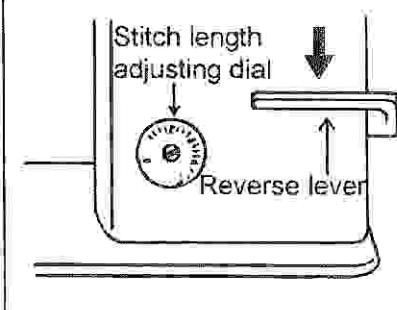

Fig.4
5.Adjustment of stitch length and reverse sewing (Fig.4):